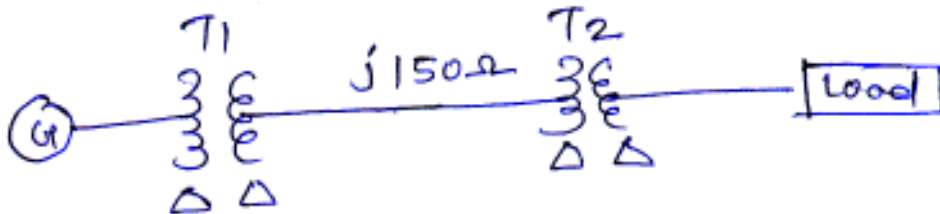

Fig. 3 (b).
b) A, 12000 KVA, 12.5 KV, three phase alternator has a subtransient reactance of  $0.1 \Omega$ . It is connected through a  $\Delta - \Delta$  three phase, transformer to high voltage transmission line having total series reactance of  $150 \Omega$ . A load of 13.8 KV, 15000 KVA with reactance of  $j 0.526$  p.u. is connected at the end of line through  $\Delta - \Delta$  three phase transformer. Both transformers are rated 18 KVA, 13.8 KV/138 KV with the reactance of  $0.12 \Omega$ . Choose a base of 15000 KVA, 13.8 KV in load circuit. Draw reactance diagram and determine voltage at the terminals of generator Fig. 3 (b).